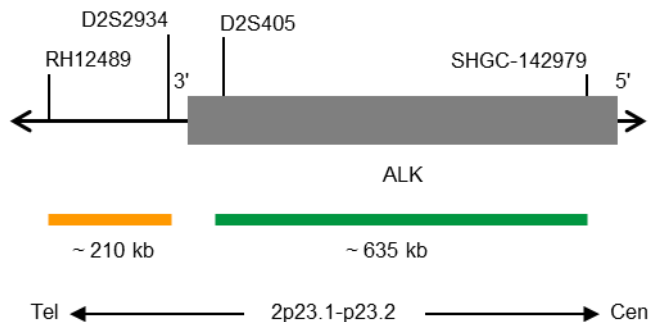

Fig. 1: SPEC ALK Probe map (not to scale)
- ZyGreen (excitation 503 nm/emission 528 nm) labeled polynucleotides (~10.0 ng/μl), which target sequences mapping in 2p23.1-p23.2* (chr2:29,460,144-30,095,822) proximal to the ALK breakpoint region (see Fig. 1).
- ZyOrange (excitation 547 nm/emission 572 nm) labeled polynucleotides (~4.5 ng/μl), which target sequences mapping in 2p23.2* (chr2:29,174,204-29,383,335) distal to the ALK breakpoint region (see Fig. 1).